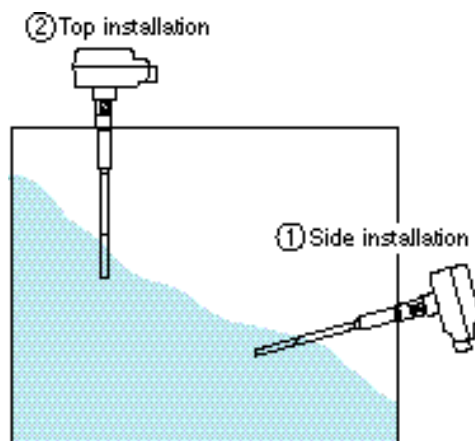

Fig. 3
Very sensitive detection is possible since level is detected using the whole electrode. However, since errors due to build-up can be occurred, it is recommended that the sensor should be installed so that the end of electrode should be directed downwards. Refer ① of Figure 3.
It is an installation method which has less effect of build-up, however, since the level is detected using only the bottom end of electrode, sensitivity is weak, and this installation method is not suitable for low conductivity material. Refer ② of Figure 3.